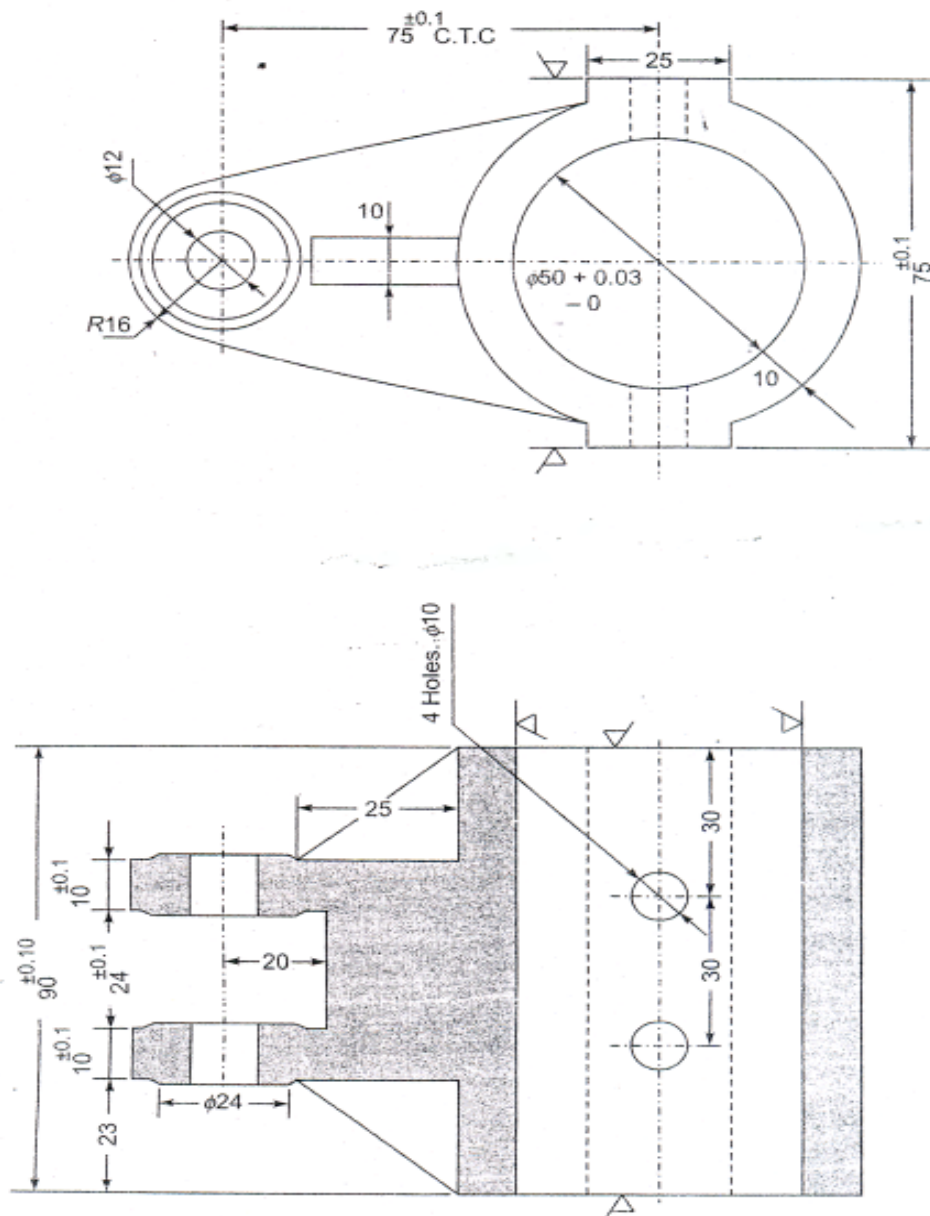

Fig. No. 1
11. Design a drilling jig for drilling of 4 holes of  $\phi$  10 mm for a component shown in fig. no. 1. 20
12. Design a turning fixture for  $\phi$  50 mm bore for a component shown in fig no. 1. 20